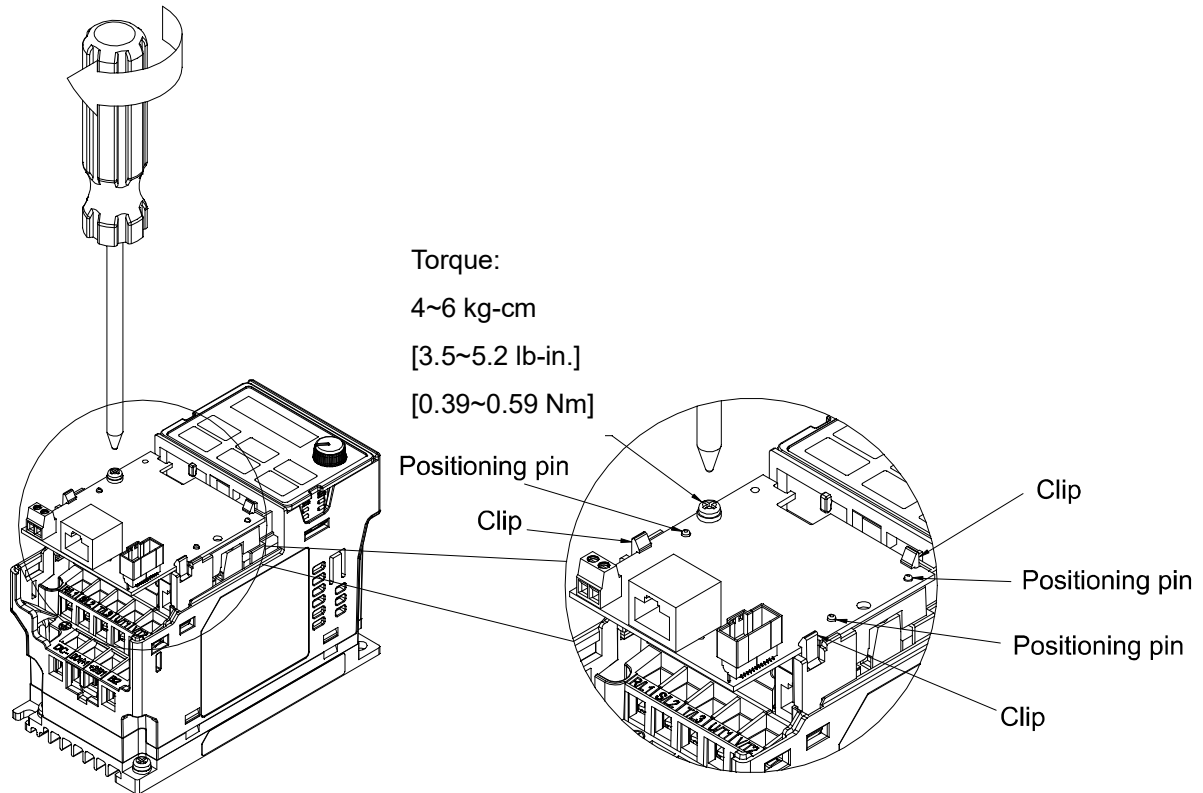

Fig. 8-3
5. Wiring after the option card fixed fitting is clipped with the holes (see  **NOTE**). Fasten the screw to fix the option card before wiring (shown in Fig. 8-3). Torque: 4~6 kg-cm [3.5~5.2 lb-in.] / [0.39~0.59 Nm]. While the wiring is finished, the front cover cannot put it back on directly but needs to assembly the option card reversely. Please refer to the subsequent steps to complete the installation.